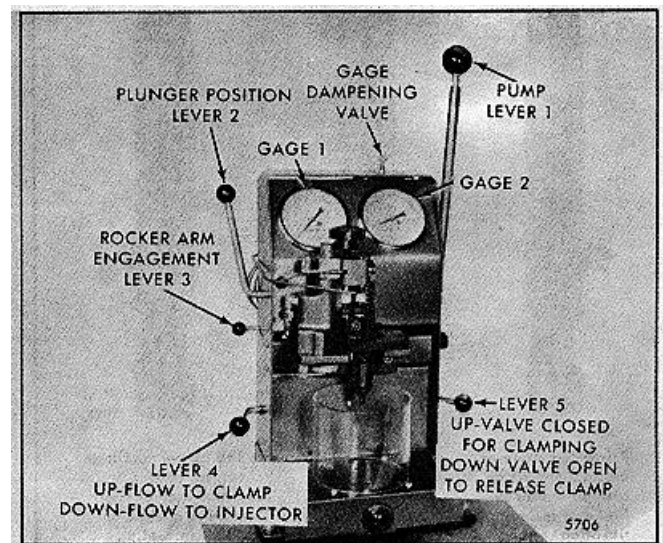

FIG. 13 Injector In Position for testing with Tester J 23010
1. Refer to Fig. 13 and position the injector tester levers as follows:
1. Move lever 4 *down* and operate pump lever 1 rapidly with smooth even strokes (40 strokes per minute) simulating the action of the tip functioning in the engine (Fig. 13).